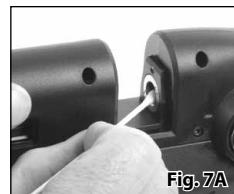

Fig. 7A
3. Using a cotton swab, lubricate the breech o-ring and bolt tip as shown in Figure 7A. Crosman RMCOL is recommended for this application. Perform this procedure at approximately 100 shot intervals.